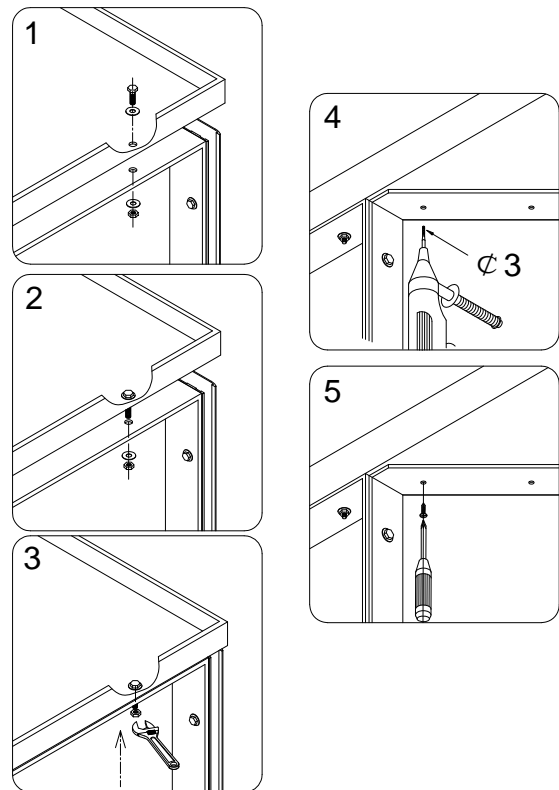

Fig 16
14. Apply silicone sealant on the top of the acrylic panels. Secure the roof to the back panel, side panel, shelf panel and the control panel with **Round head screw ST4.2x25 (17)** and **Bolt M6x20 (23)**. See Fig 16 for details.